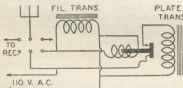

FIG. 2
1. *A Bushing for Vario-couplers.* Bend the whole piece in the shape of a "U," after drilling a $\frac{3}{4}$ -inch hole about $\frac{5}{16}$ inches from the "T" end. The addition of a small coil spring makes a bushing almost identical with those used on a well-known commercial timer. The method of assembly is shown in Fig. 2. This solves the most difficult problem in the construction of a home-made variocoupler.
When the current is turned on, the plunger rises so that the contact C meets the contact C', thus completing the plate circuit. The speed with which the switch acts depends upon the thickness of the oil used in the dash-pot, or it can be regulated by a resistance in series with the instrument. Connections for the switch are shown in Fig. 2.
Fig. 1 above shows how to connect a filter to obtain that most desired D.C. note. Fig. 2 shows how to filter a motor generator. Fig. 3 indicates the two worst possible keying connections; while Fig. 4 shows the very best of any that can be used. If you use a good filter and key properly, you will get out better and furthermore will not trouble the BCLs.